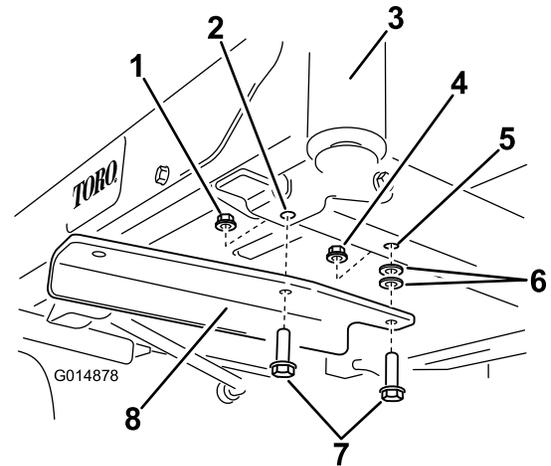

**Figure 5**
2. Locate the front bolts on the underside of the frame (Figure 5 and Figure 6).
3. Remove the 2 bolts (3/8 x 1 inch) and 2 locknuts (3/8 inch) as shown in Figure 5 and Figure 6.